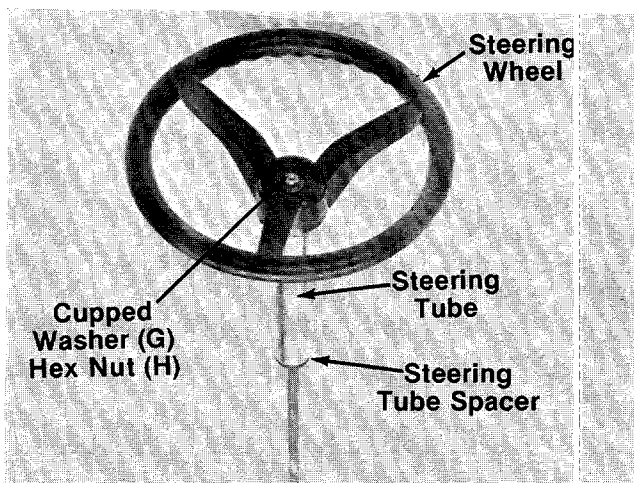

FIGURE 6.—Style A Shown
4. **Style A only**—With the **steering shaft** in the normal upright position (end with flattened portions up), slide the **steering tube spacer** and **steering tube** down over the shaft. See figure 6.
5. Place **steering wheel (AC)** over the end of the **steering shaft**, lining up the flattened portions of the steering shaft with the flattened portions of the steering wheel. Make certain steering wheel is seated over the end of the steering tube.
6. Place **cupped washer (G)** over the **steering shaft**, with the cupped side of the washer against the steering wheel. Secure with **hex nut (H)** (5/16" I.D.). See figure 6. Tighten securely.